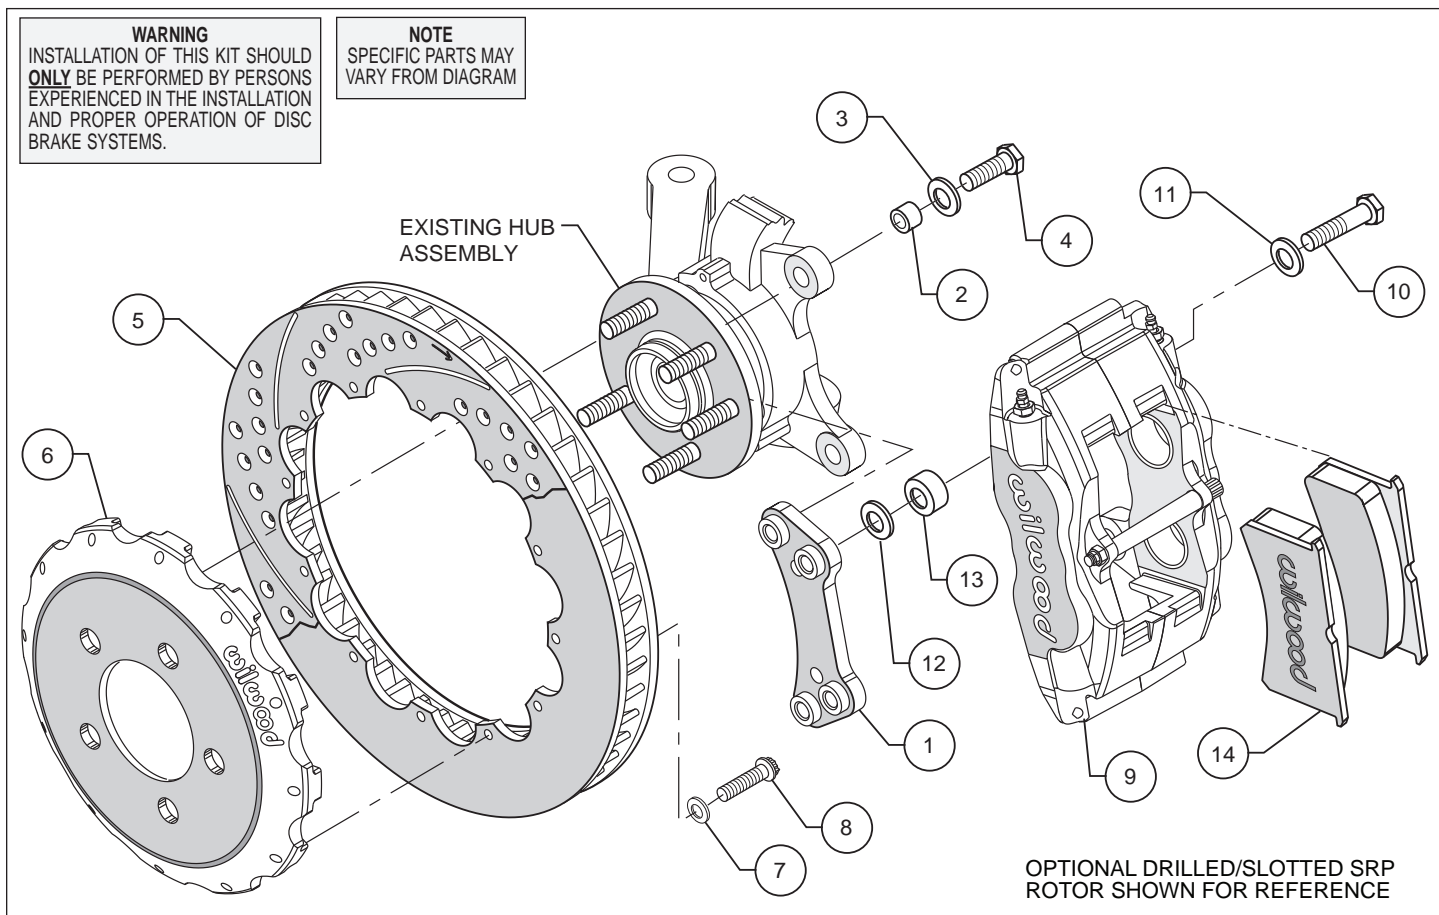

Figure 1. Typical Installation Configuration
- Insert one sleeve (2) each into the holes on the top and bottom of the spindle “ears” where the OEM caliper bracket was removed. Apply red *Loctite*® 271 to the caliper mounting bracket bolt threads (4) before installation of the caliper mounting bracket (1). Install the bracket with the flanged heads of the clinch nuts facing the outboard, as shown in Figure 1. Slide bolt (4) through washer (3) and into the previously installed sleeve (2), from the backside of the hub. Finger tighten. Repeat for the lower mounting holes. Torque bolts to 75 ft-lb.
- NOTE:** Please reference the caution statement at the beginning of the assembly instructions. Mount the caliper (9) onto the caliper mounting bracket (1) using bolts (10) and washers (11), as shown in Figure 1. Insert spacer (13) between the caliper ears and the bracket, before tightening the bolts. View the rotor (5) through the top of the caliper. The rotor should be aligned in the center of the caliper. If not, loosen the two bolts and adjust the caliper by using 0.016 inch thick shims (12), placed between the spacer (13) and the bracket. Finger tighten and recheck alignment. Always use the same amount of shims on both the top and bottom caliper mounting bolts. Loosen the two bolts and apply red *Loctite*® 271 to bolt threads and torque to 75 ft-lb.
- Remove the caliper bridge bolt and install the disc brake pads (14) then reinstall the caliper bridge bolt.